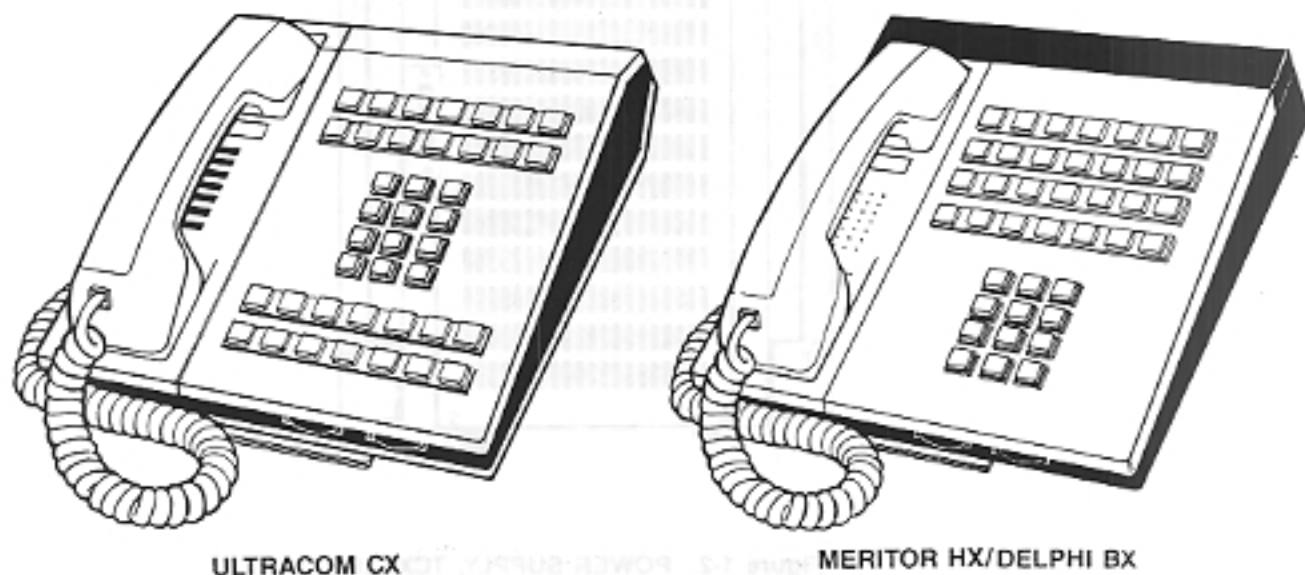

Figure 1-3 MULTIBUTTON KEY TELEPHONE, TCX-128
2.11 The Multibutton Key Telephone (Figure 1-3) is the primary station telephone used in the TCX-128 System. The telephone provides rapid access to all station features available in the system.